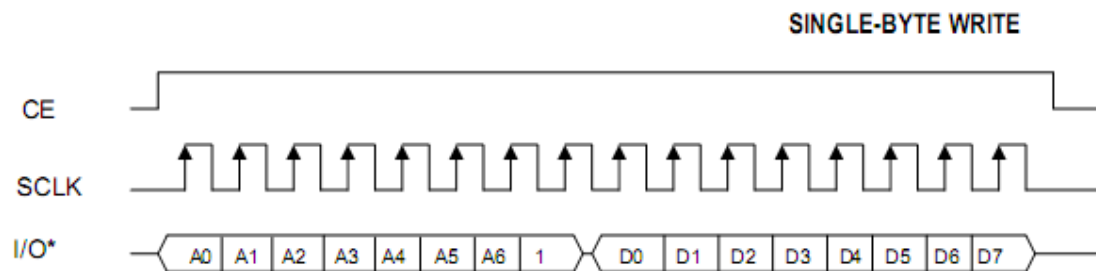

Figure 7: Timing diagram to write a data from DS1305.
- * Note that to write data to the DS1305 it is necessary send a byte with the address and bit 7 in 1. After that, send the data you want to write. See figure 7.